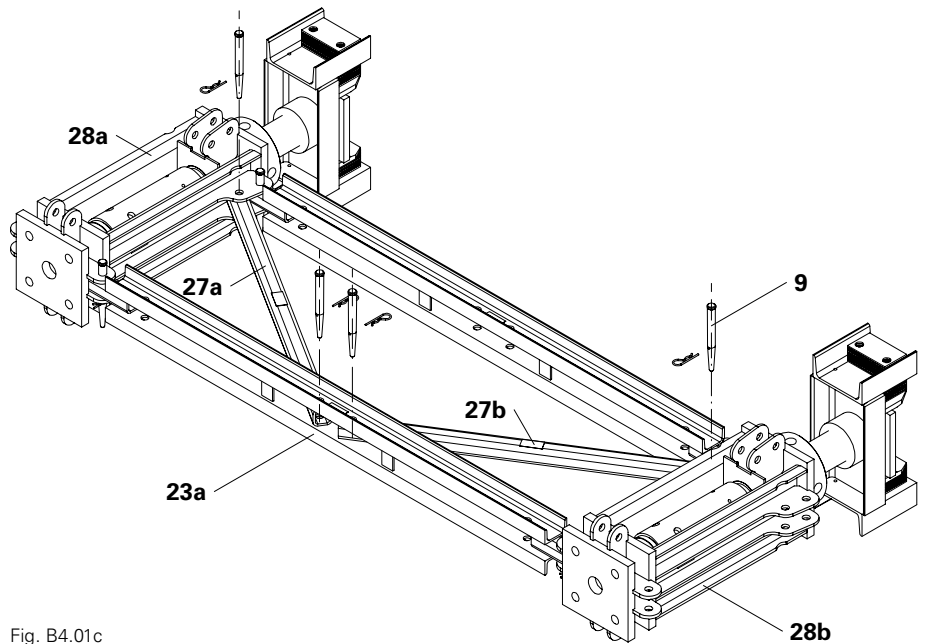

Fig. B4.01c
9. Connect the second Diagonal Strut VST 200/62.5 (**27b**) to the Horizontal Ledger VST (**23a**) using 1x Fitting Pin \varnothing 21 mm (**9**) and secure with Cotter Pin 4/1, galv. (Fig. B4.01c)